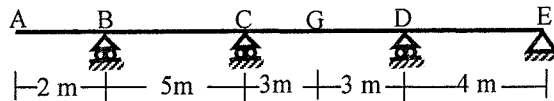

Fig.7
7. (i) Draw the qualitative influence lines of the beam shown in Fig.7. [05]
- (ii) Analyze the beam shown in Fig.7 to calculate the maximum value of R_C , if the beam (Fig.7) is subjected to a uniformly distributed dead load of 15 kN/m, moving live load of 25 kN/m and 150 kN concentrated load [Given: $EI = \text{constant}$]. [10]